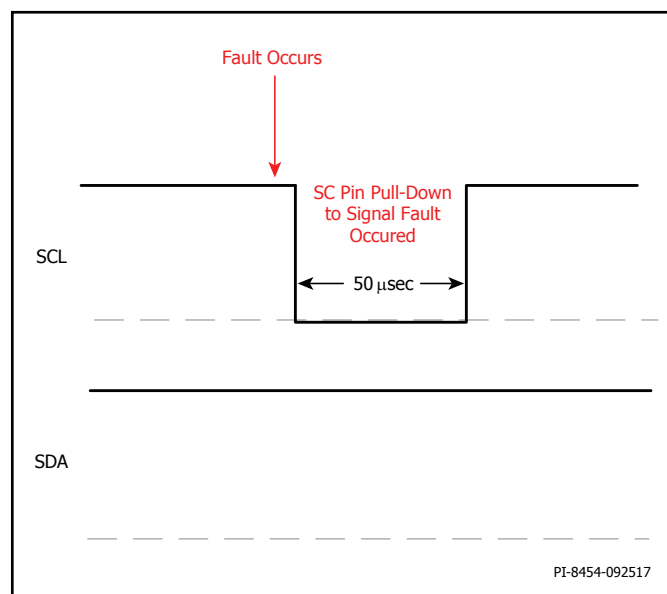

Figure 17. Interrupt Mask During Idle I²C.
1. When the SCL pin is in idle mode (see Figure 17), the fault interrupt will happen as soon as the fault is detected. The interrupt pulls down the SCL pin for 50 μ sec then releases it back to HI State.